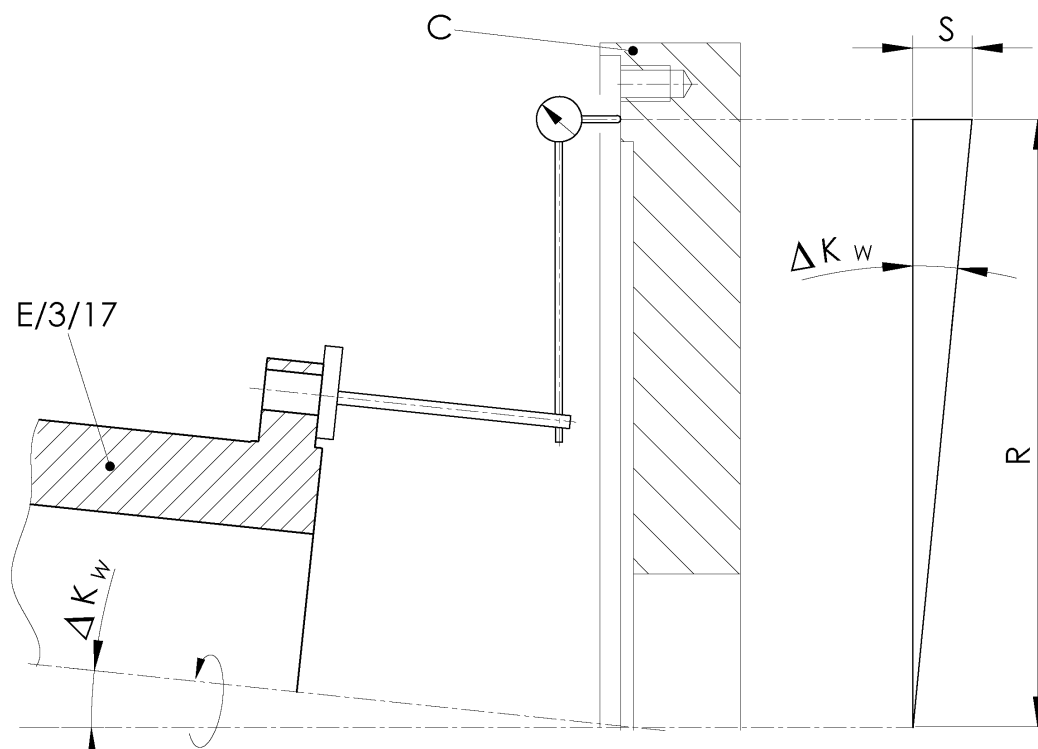

Fig. 5-3 Angular misalignment
- Measure the angular misalignment with a dial gauge (see Fig. 5-3).
- Turn the flange/hub/adaptor (E/3/17) with dial gauge and flywheel (B) slowly by 360°.